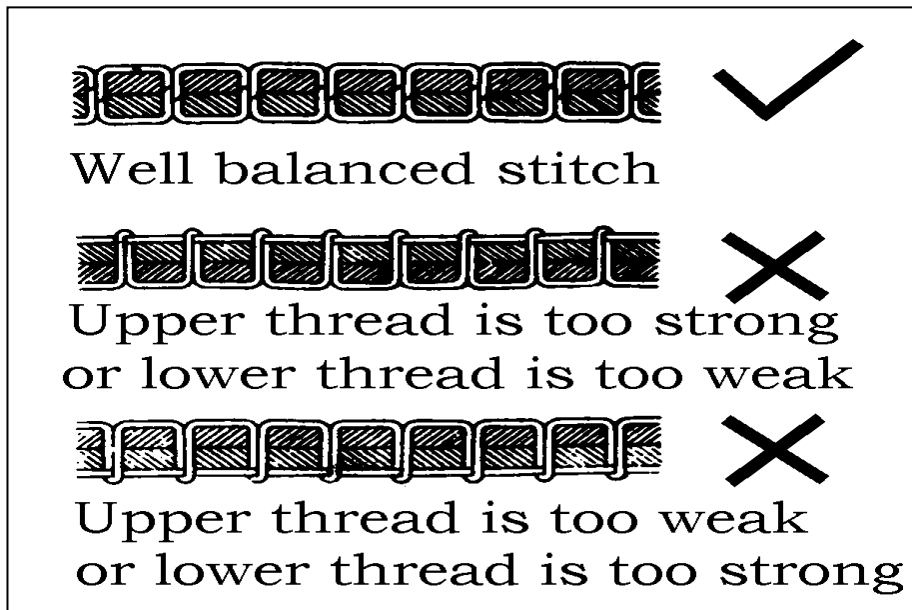

Fig.5
9、 ADJUSTING THE THREAD TENSION (Fig.5)